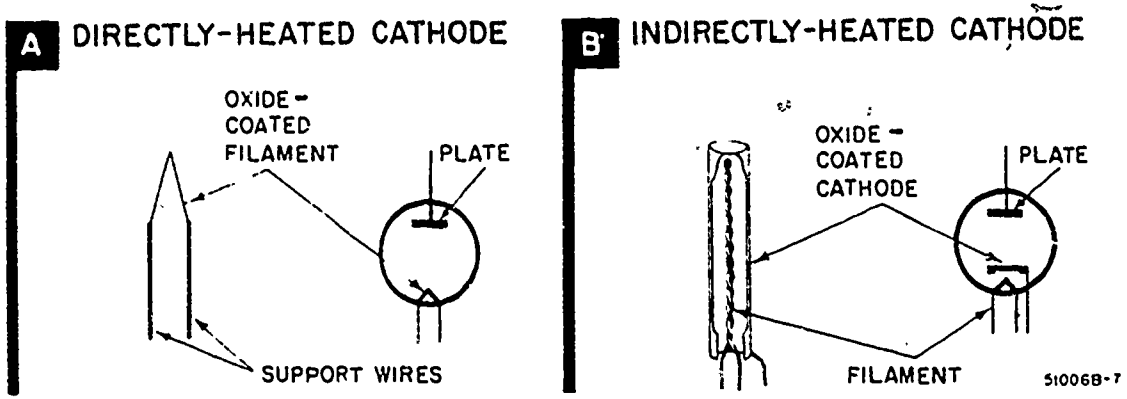

Figure 1-1. Directly and indirectly heated cathodes.
- (1) Cathode. When heated, the cathode emits electrons. The directly heated cathode (A of fig. 1-1) is a single filament. The indirectly heated cathode (B of fig. 1-1) is a metal sleeve that is heated by an enclosed filament, or heater. In either case, a voltage applied to the filament causes current to flow, which generates the heat.